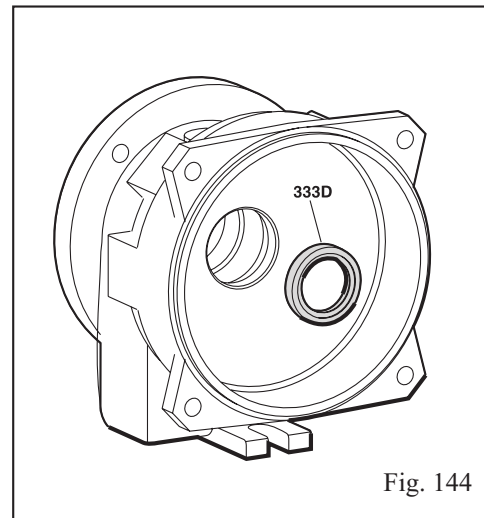

Fig. 144
17. Install the lipseal (333D) in bearing frame (228) (Fig. 144).